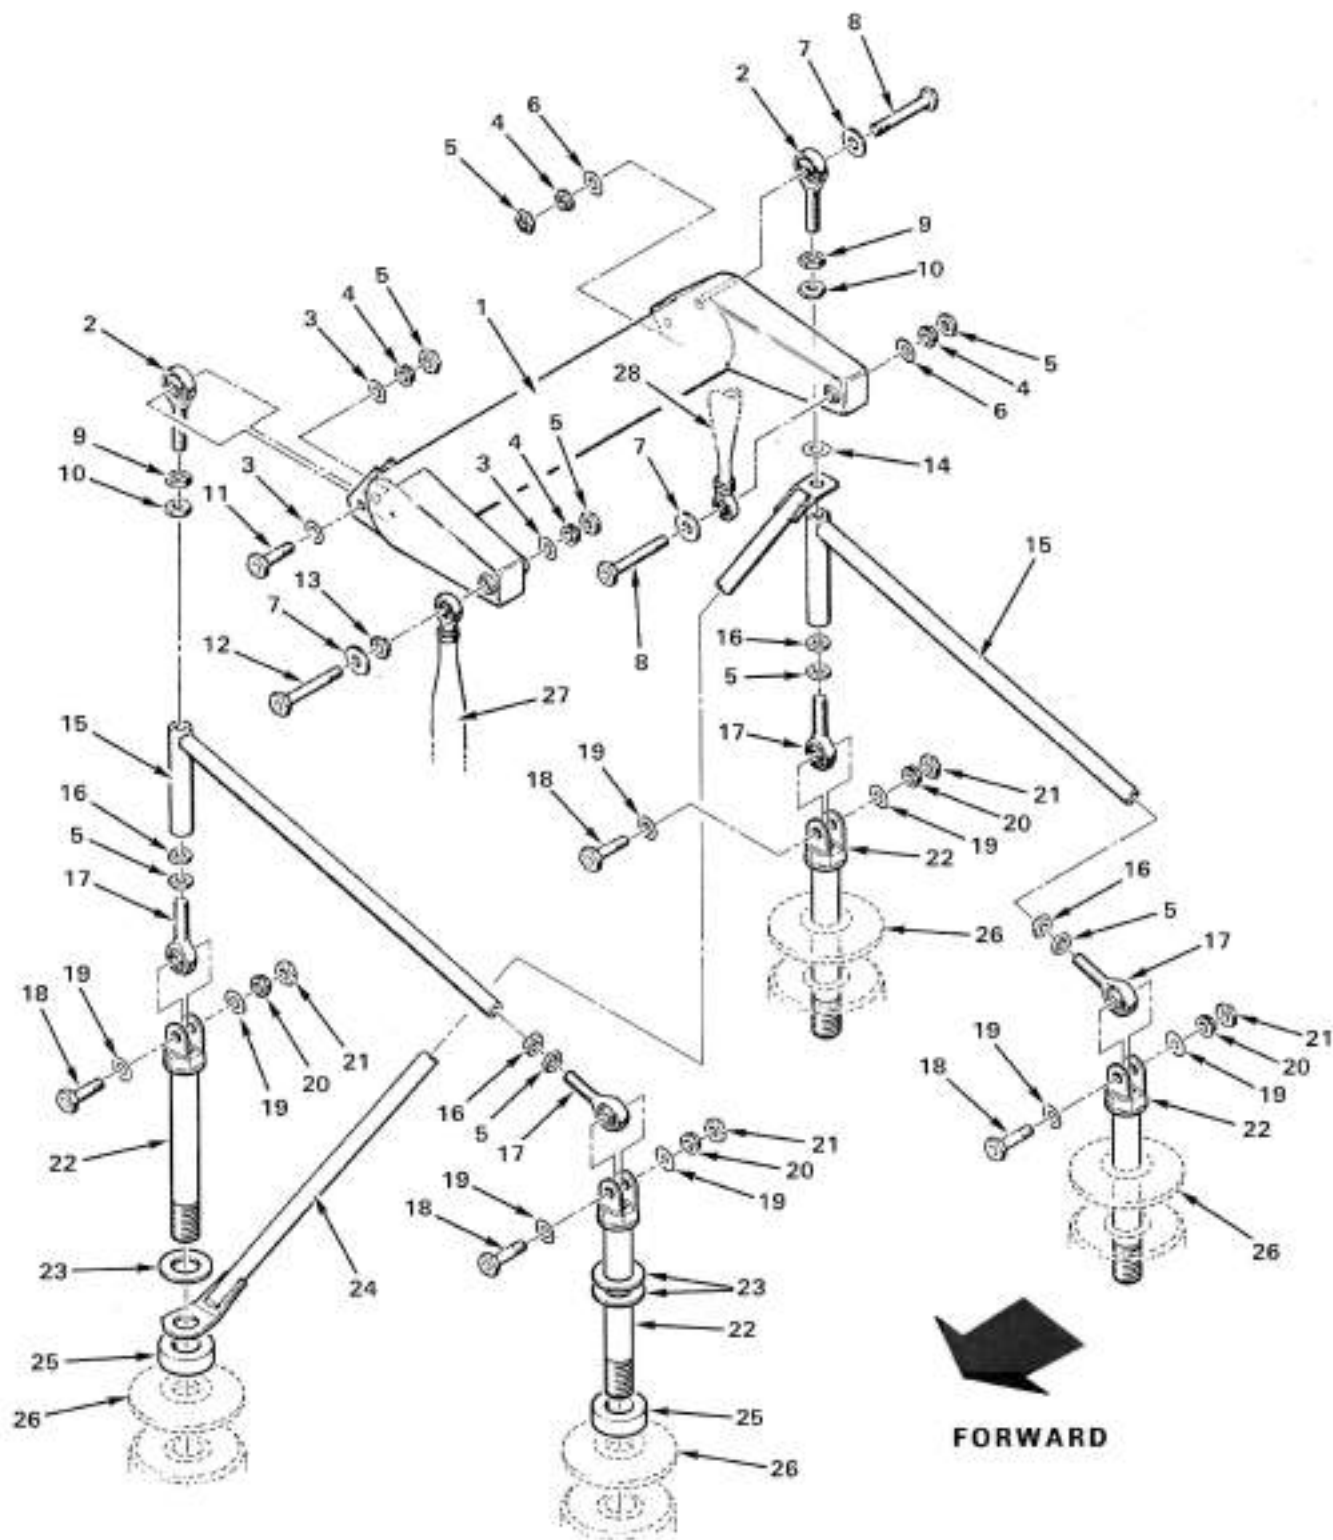

FIGURE 8-9 JACKSHAFT INSTALLATION
8.300 JACKSHAFT AND SUPPORT STRUTS**8.310 Jackshaft (See Figure 8-9)****8.311 Jackshaft Removal****NOTE**
8.322 Jackshaft Strut Installation (see Figure 8-9)
- a) Install lower rod ends to the main rotor gearbox fittings as shown in Figure 8-9.
- b) Reinstall the aft vertical strut upper rod end as shown in Figure 8-9. The rod end extension must be set to 0.93 ± 0.03 inch from the end of the strut to the center line of the rod end ball. (The dimension is the same for all six support rod ends.)